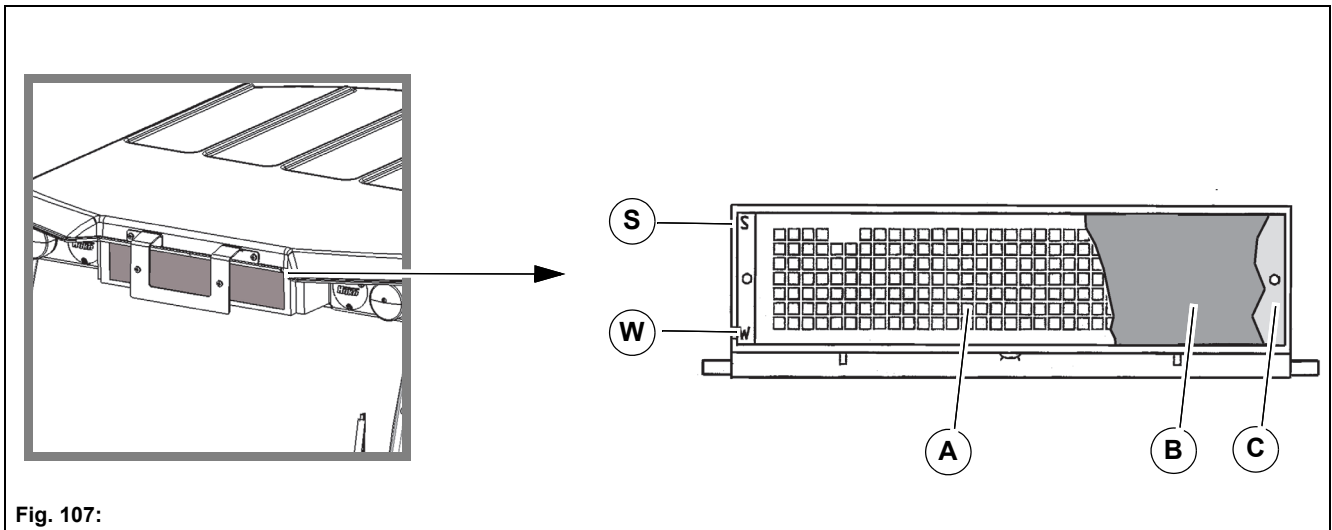

Fig. 107:
2. Loosen the four mounting screws of the protective grille **Fig. 107-A** and remove the protective grille.
3. Remove and clean the cab air filter **Fig. 107-B** and renew it if necessary.
Insert the perforated plate **Fig. 107-C** located behind the cab air filter so that the mark points to the "S".